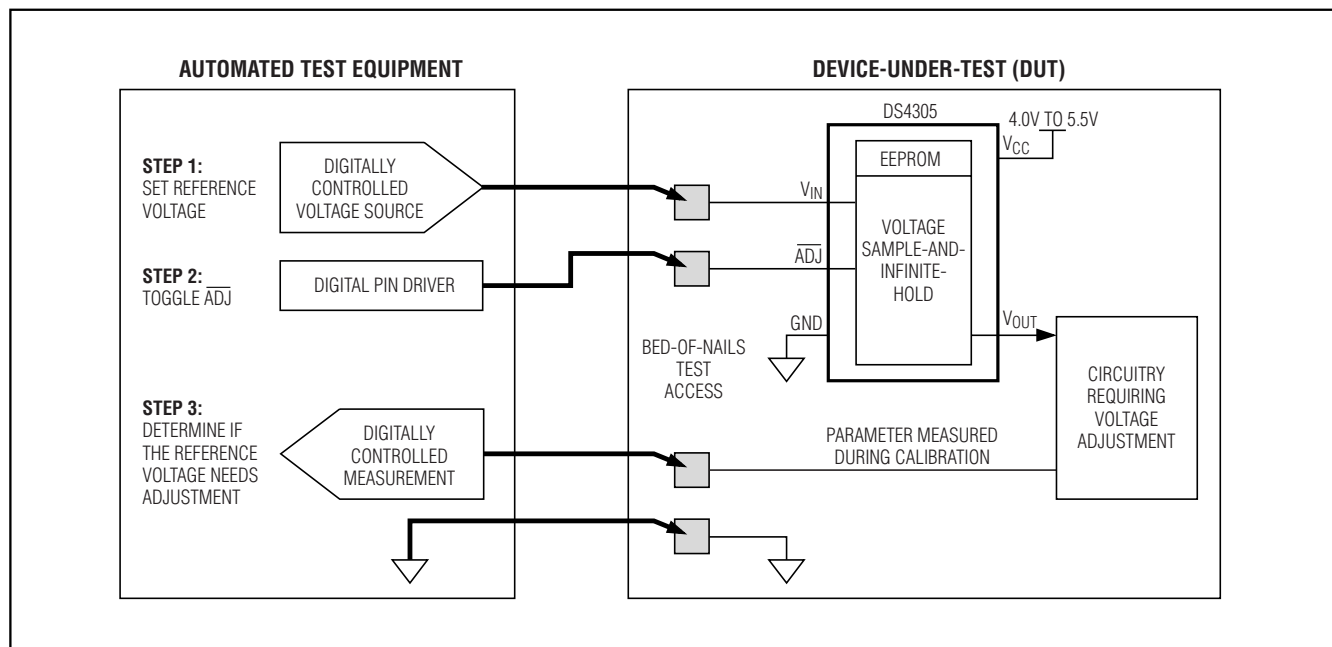

Figure 2. Application Circuit
Figure 2 details an example of how the DS4305 can be adjusted in an application. During factory alignment, a three/four-node bed-of-nails is used to: (1) provide the adjustment voltage through the V_{IN} pin, (2) control the \overline{ADJ} input, and (3) sense the needed feedback parameter. During manufacture, an automated test procedure adjusts V_{OUT} , by changing V_{IN} , until the feedback parameter is optimized. After the bed-of-nails operation is complete, both the V_{IN} and \overline{ADJ} inputs are left open